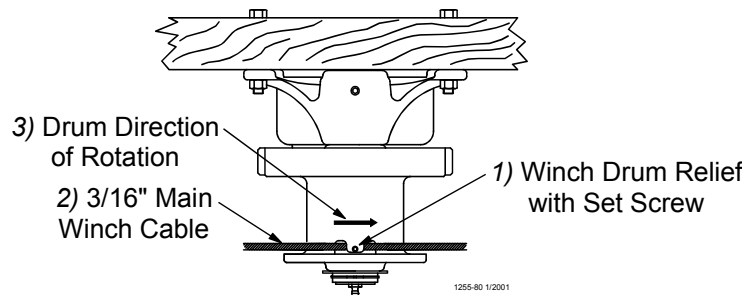

Figure 10. Attaching the Cable to the Power Winch
4. Route the cable through the Winch Drum Relief located near the bottom of the drum. Tighten the set screw to anchor the cable to the drum. **See Figure 10.**